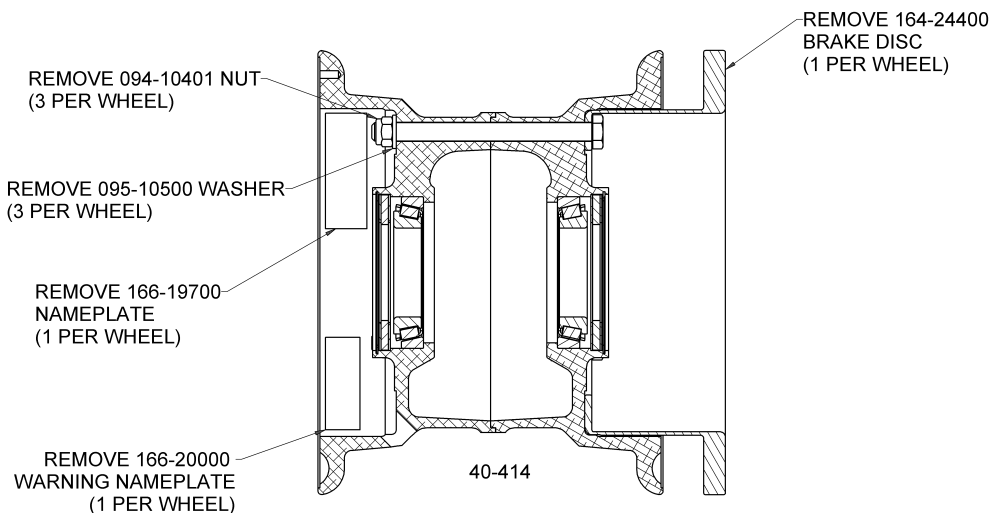

Figure 1
- 3) **DEFLATE** tire and remove valve core, remove and discard the hardware and nameplates as shown in Figure 1 and listed in Table 2 below.